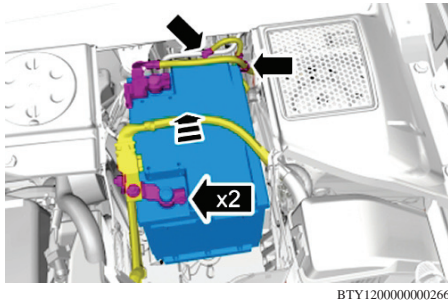

Fig. 3 Battery cable removal
7. Remove battery vent hose, Fig. 3.
8. Remove battery cables, Fig. 3.
3. Install battery cables, and torque clamps to 22 inch lbs., Fig. 3.
4. Install battery vent hose, Fig. 3.